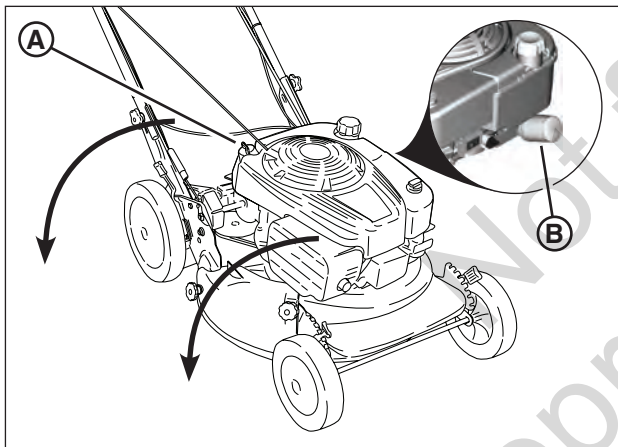

Figure 13: Draining the engine oil
2. Remove the dipstick (**A, Figure 13**), then turn the mower on its side. Allow the oil to drain from the oil fill tube into an appropriate container. Dispose of used oil properly.
2. Remove the oil filter (**B, Figure 13**) and dispose of properly.